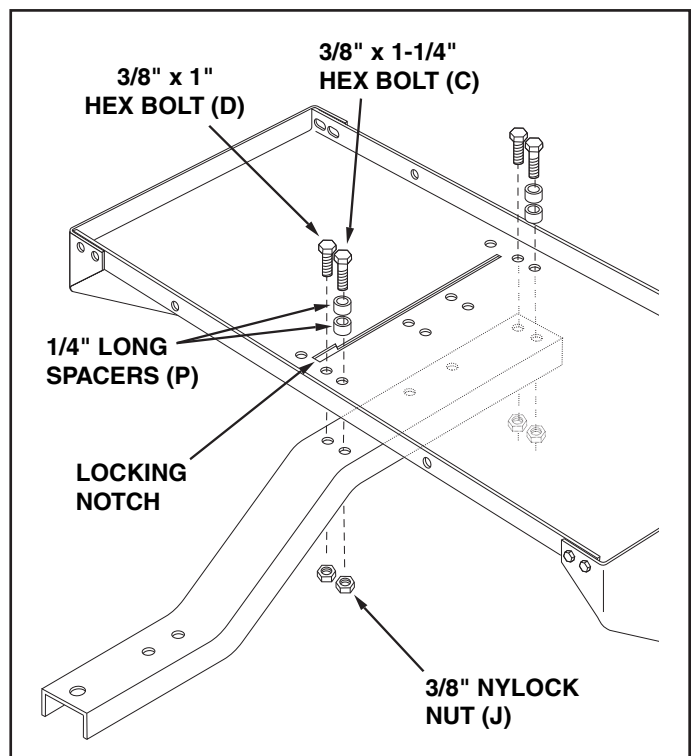

FIGURE 7
10. Assemble the tongue to the tray, placing the slot's locking notch to the front. Use two 3/8" x 1" hex bolts, two 3/8" x 1-1/4" hex bolts, four 1/4" long spacers, and four 3/8" nylock nuts as shown in figure 7. **Tighten.**